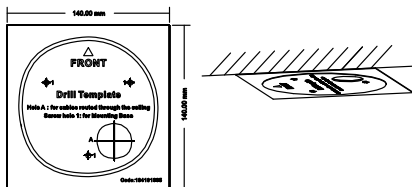

Figure 2-30 Attach the Drill Template
2. Drill a cable hole in the ceiling according to the circle A on the template if you want to route the cables through the ceiling, as shown in Figure 2-30.